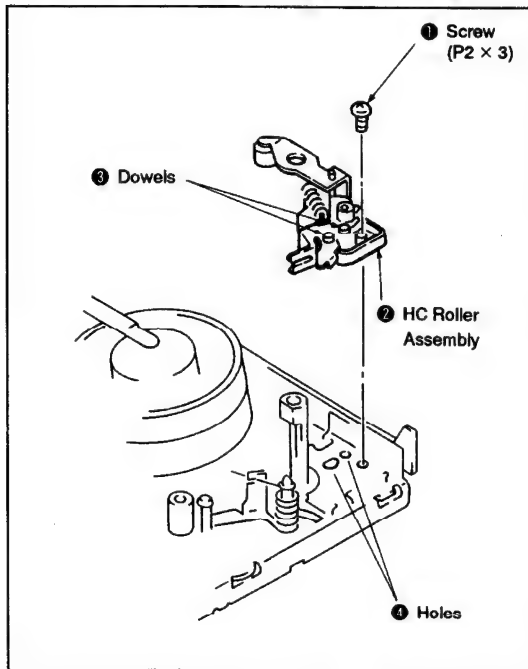

Fig. 3-1.
1. Removal (See Fig. 3-1.)
- 1) Remove the screw ①, then remove the HC roller assembly ②.
2. Installation (See Fig. 3-1.)